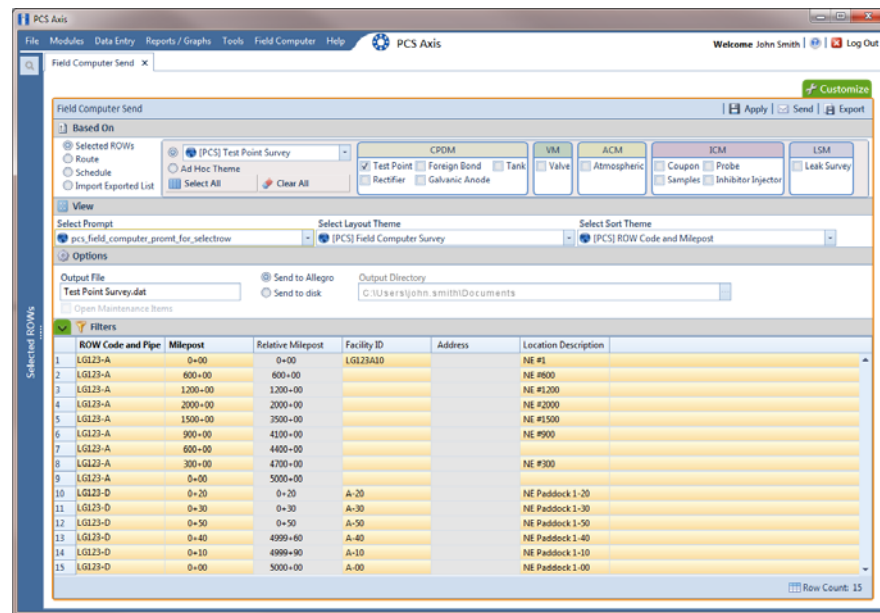

Figure 13-2. Select ROWs and Facility Type(s)
- 3 Click **Field Computer** > **Send** to open the *Field Computer Send* window (Figure 13-2, page 519).
- 6 Select a prompt, layout, and sorting theme as follows (Figure 13-2):